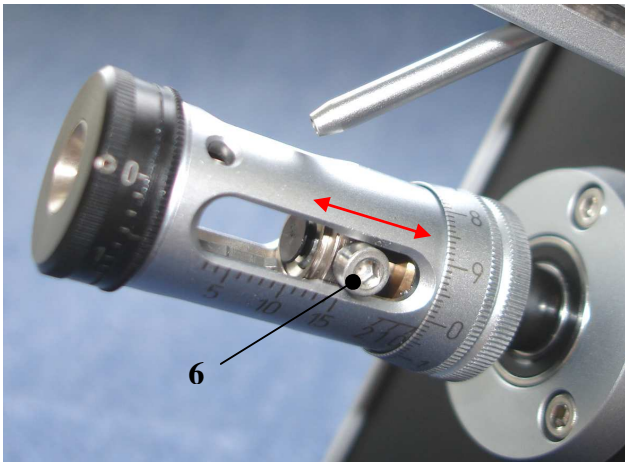

Fig. 9
- Slowly push the big Allen screw (6) back and forth. This will cause the four stripping blades to automatically fit into the tracks on the guide plate Fig. 9.